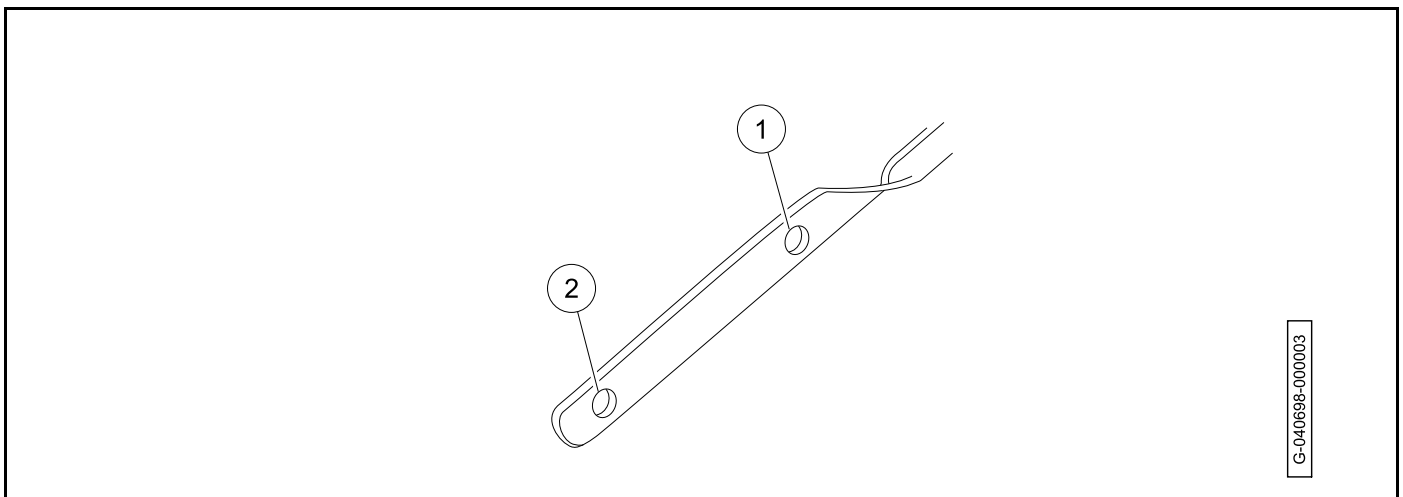

Figure 10-13 Dipstick Indicators
2. Add engine oil until the oil level is between the maximum (1) and minimum (2) indicators (Figure 10-13, Page 10-17).